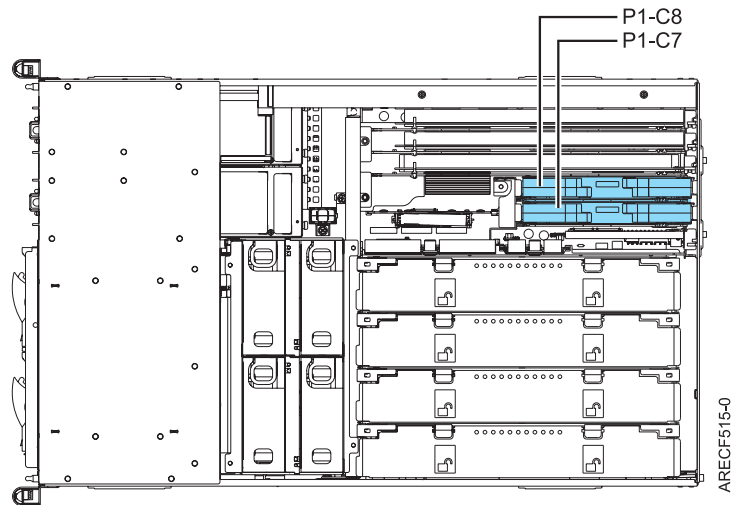

Figure 1. Top view of slots P1-C7 and P1-C8
8. Locate the appropriate slot in which to install the GX adapter. If there is only one processor card, you must use a GX+ adapter and choose slot P1-C8 as shown in Figure 1 on page 2. If two processor cards are installed, P1-C7 also supports a GX adapter. To use a GX++ DDR adapter, two or more processor cards are required.